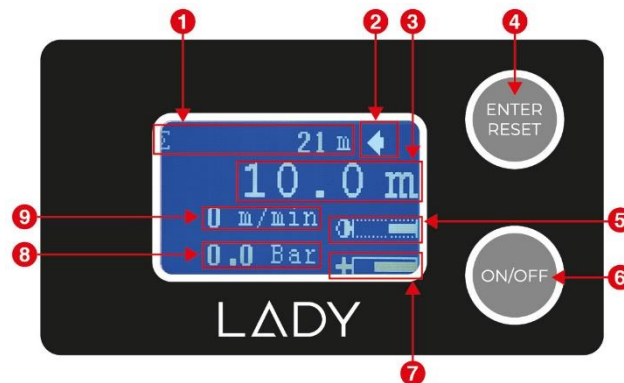

Figure 24: configuration of the Display
- Set cable and minitube inside the device, positioning the gaskets with cut facing down, for a better fit, as shown in figure 24.